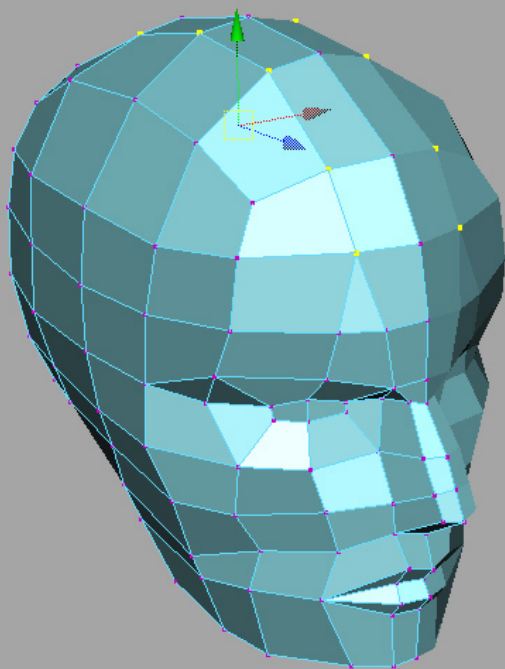

Fig 15
15. Since this is a low poly character model, we should be looking to where we can optimize the mesh as we go along. Right now, there are more edges at the top of the head than needed, so we'll merge them together. Select the highlighted vertices and of the edges we want to merge and use the Merge Vertex Tool (Edit Polygon < Merge Vertice < Option box). In the option box keep raising the distance level until your verts finally merge together to form one single mesh. If you have to set the distance too high, and they all merge to one point, repeat this step, only merging two verts of the edges at a time. Once you've only got the 1 edge up there, continue to shape the head. (Fig 15)